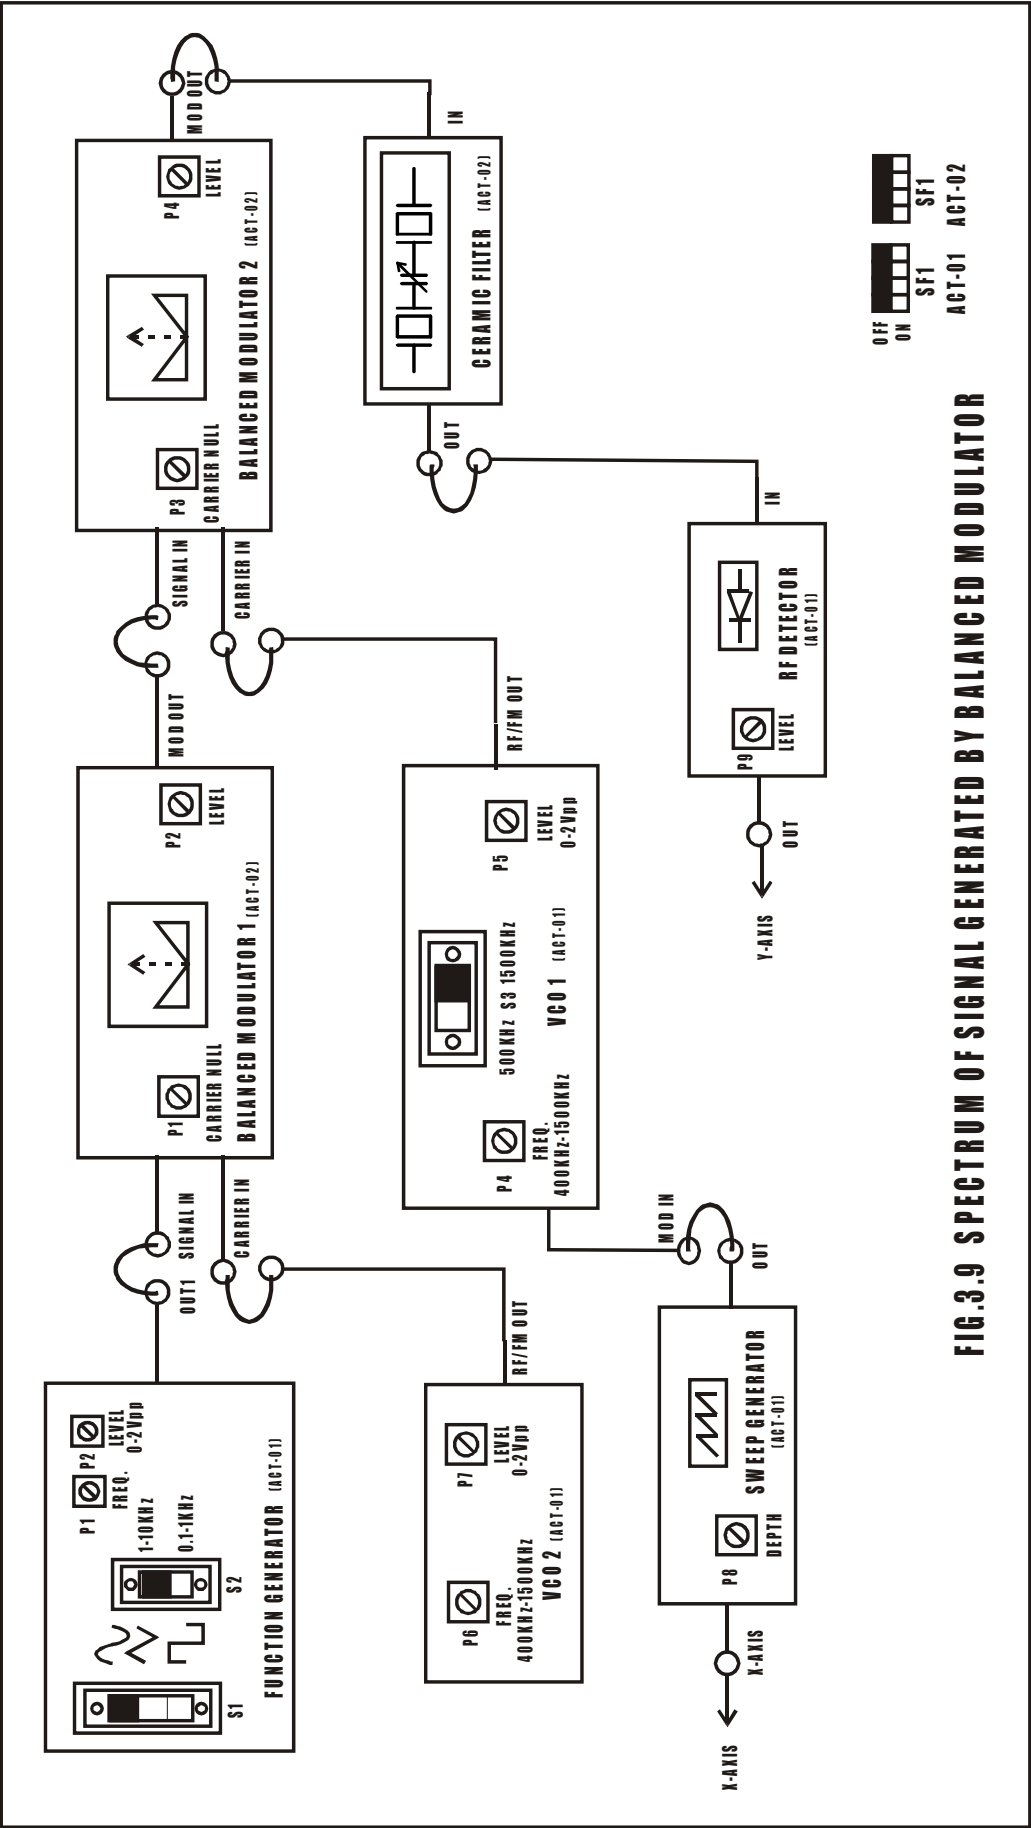

FIG.3.9 SPECTRUM OF SIGNAL GENERATED BY BALANCED MODULATOR
- Refer to the fig.3.9 & Carry out the following connections and settings.